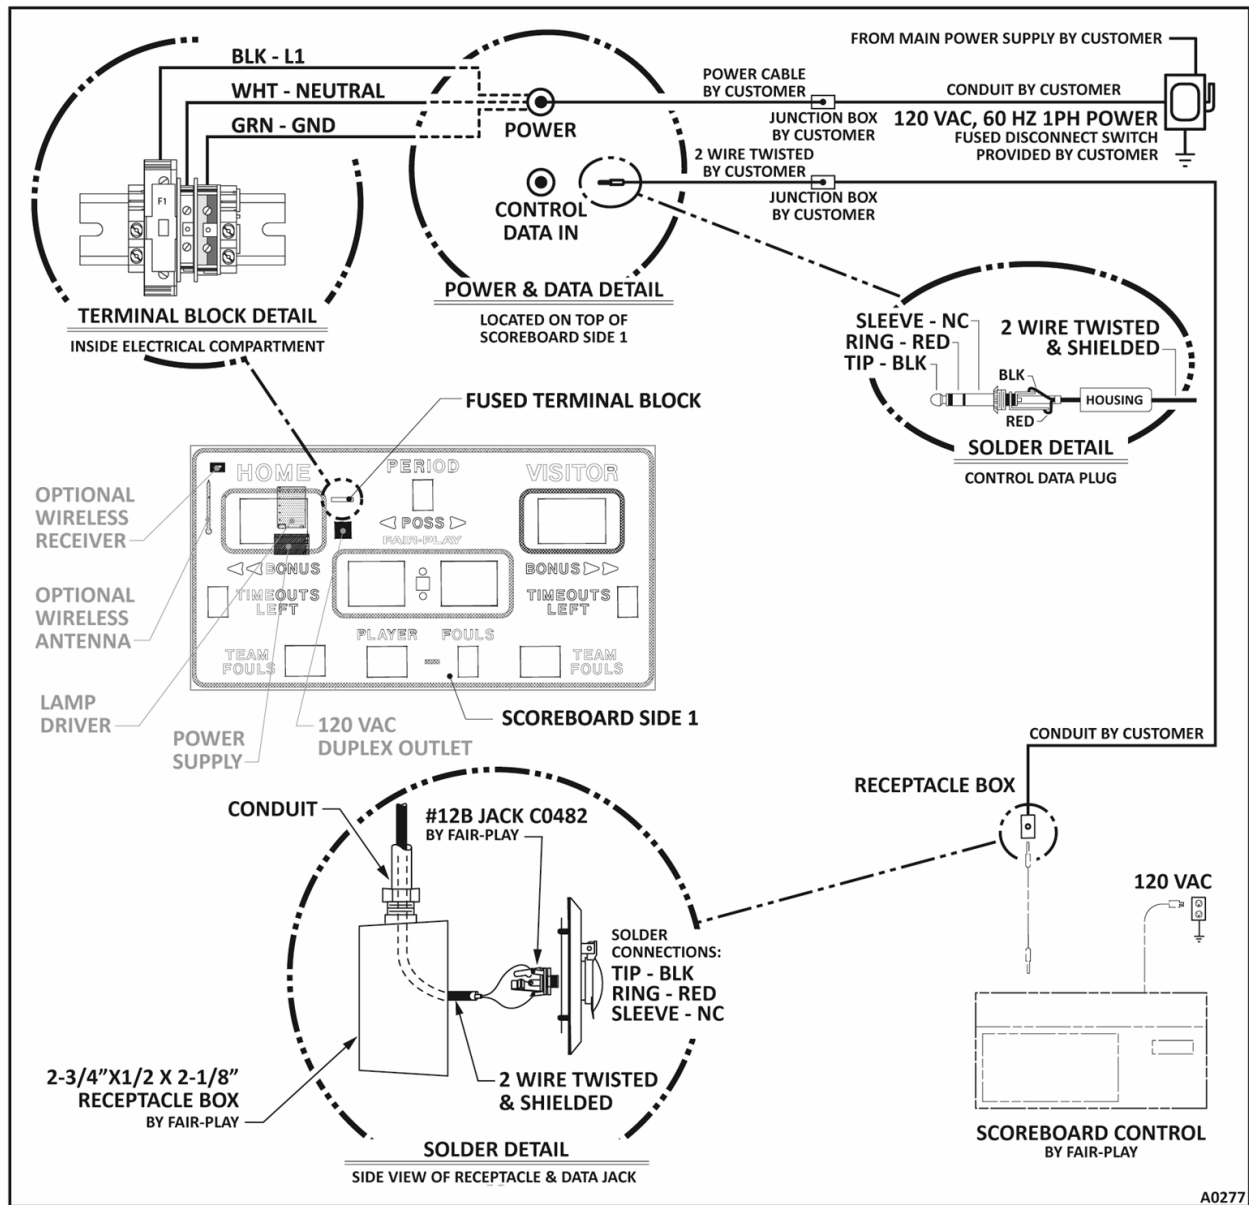

FIGURE 16 – TWO-SIDED: SCOREBOARD POWER & DATA CONNECTIONS
2. **POWER** – refer to Figure 16 on page 15.
3. **DATA** – refer to Figure 16 on page 15.
- iv. Solder the twisted wires to the **DATA JACK** – refer to Figure 16 on page 15.
- ii. Solder twisted wires to the **DATA PLUG** – refer to Figure 16 on page 15.